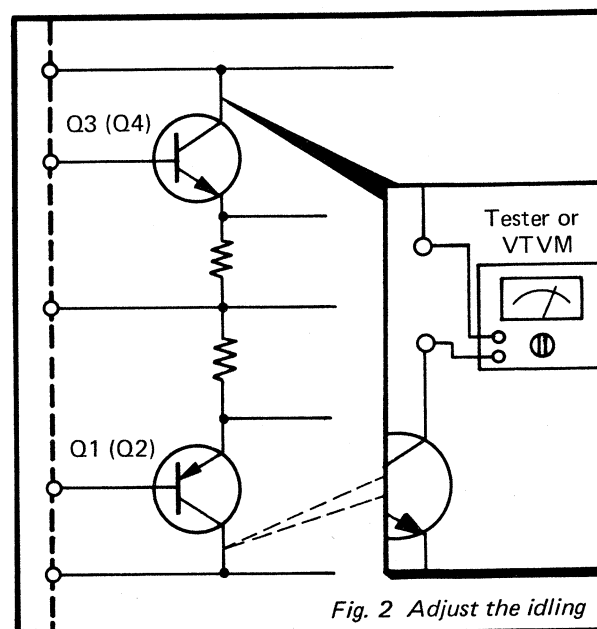

Fig. 2 Adjust the idling
4. Before checking the idling current, turn on power switch in a few minutes, adjust the variable resistor (VRq 3,4) so that tester (or DC VTVM) coupling to the collector of transistors indicates 50 mA (Fig. 2). At the same time check the waveform to be correct (Fig. 3).